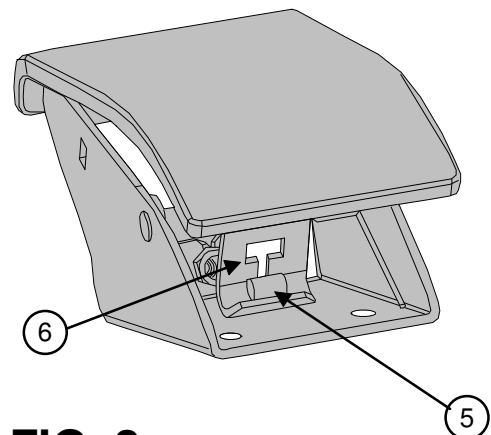

FIG. 3
1. Unscrew the front nut (1) and insert the cable (4) through the slot cable support bracket. See pedal instructions for more details and exact slot location. The rear nut (3) remains at the end of the thread (2). Adjust cable holder (2) for proper pedal operation and secure it's position with nuts (1) and (3). Use 3/32 wrench for tightening nuts (M5x0.8mm).
2. Verify that the actuating cable is inside the valve recepticle; see Fig.3
3. Insert cable end T-bar (5) into the pedal lever (see instruction for pedal)
Insert valve cable end T-bar (5) into the pedal lever (6) (FIG.3)